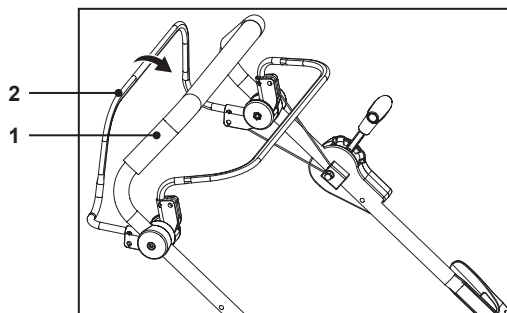

Fig. 15
1. Push the self-propelling lever (2) forward and hold it against the upper grip handle (1) to engage the wheels (Fig. 15).
2. Release the self-propelling lever (2) to disengage the wheels.